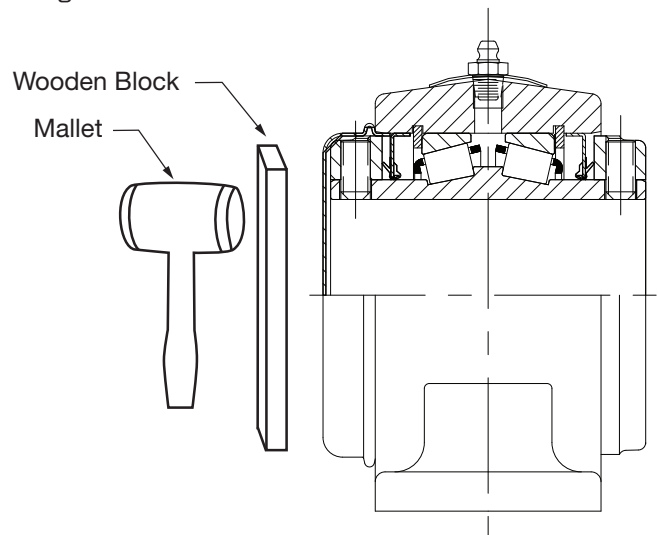
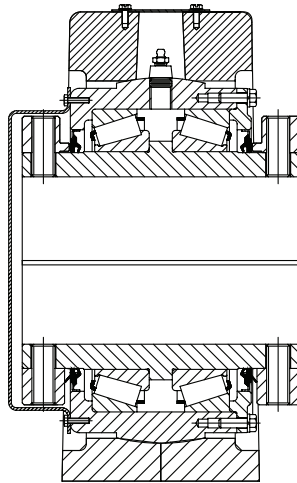

Figure 1 - Type E
Figure 3 - Double-Interlock Type K and TAF over 5"
4. For sizes up to 5", guide the end closure over the collar and into the housing bore. (Figure 1 or 2). Hold a piece of wood wide enough to cover the entire end closure face against the face of the end closure. Using a mallet, strike against wood to drive the end into the housing. The end closure is securely mounted when the ridge on the OD of the end closure bottoms against the housing. For Double Interlock, Type-K, and TAF over 5", screws are used to attach the cover. See Figure 3.